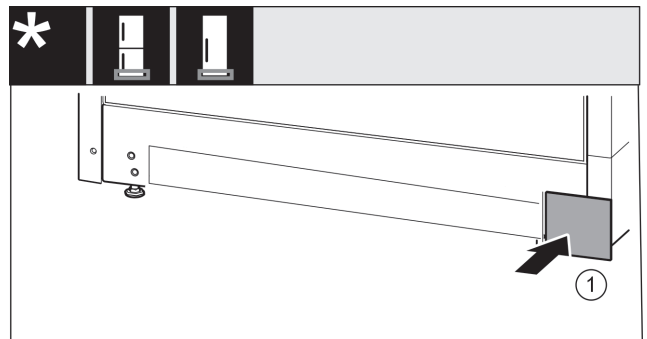

Fig. 18
- ▶ Re-attach the cover Fig. 18 (1) on the other side.